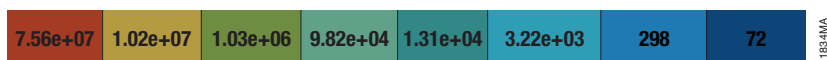

Figure 51. Results plate map with heat map display (Panel A) and example of heat map colors applied to the results in the plate map (Panel B).
6. Once the protocol is finished, results are shown in a heat map format to indicate wells with higher or lower signals in comparison to the entire plate (Figure 51, Panel A). The software automatically scales the color selection, assigning the highest values red and the lowest values blue, along a gradient (Figure 51, Panel B). To turn off the heat mapping of the data, touch the small plate map button at the top right side of the information bar above the data plate map. Touch the ellipsis to the left of the small plate map button to enter notes that will appear in the information bar.
- a. To analyze data, tap the **Analysis** button (bottom left corner of screen in Figure 51, Panel A). Analysis functionality is described in Section 3.F, Analysis of Results. For certain result types (e.g., protocols containing kinetic reads), the **Analysis** button will be inactive because analysis is not supported for these protocol types.
- b. To export data, tap the **Export** button (bottom left corner of screen in Figure 51, Panel A). The software will export the data to the manual export folder specified by the Administrator settings (see Section 3.H, Administrator Settings). By default data is exported in the following formats: a comma-separated value (.csv) file and a GloMax® portable data format (.raw) file. Depending on administrator settings, the data can also be exported as a Microsoft Excel® workbook (.xlsx) file and a Portable Document Format (.pdf) file. When interfacing with a laboratory information management system (LIMS), we recommend using the .csv file and importing according to your LIMS software guidelines.